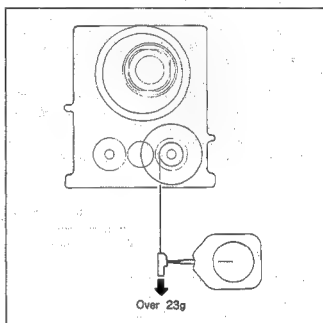

Fig. 7-58.
2. T main brake torque (See Figs. 7-58, and 7-59.)